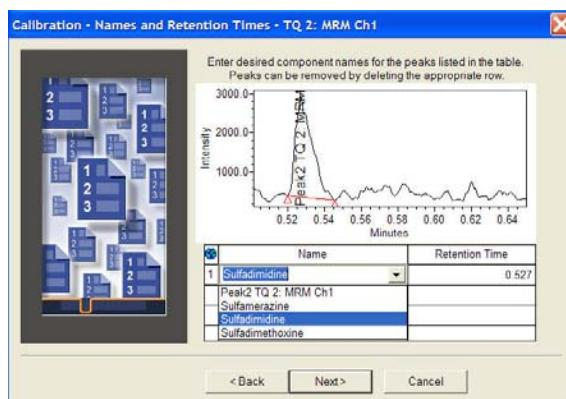

Figure 83 - Names and Retention Times window
7. In the Names and Retention Times window, click inside the Peak2 TQ 2: MRM Ch1, click the drop-down list, and then select **Sulfadimidine** (Figure 83).